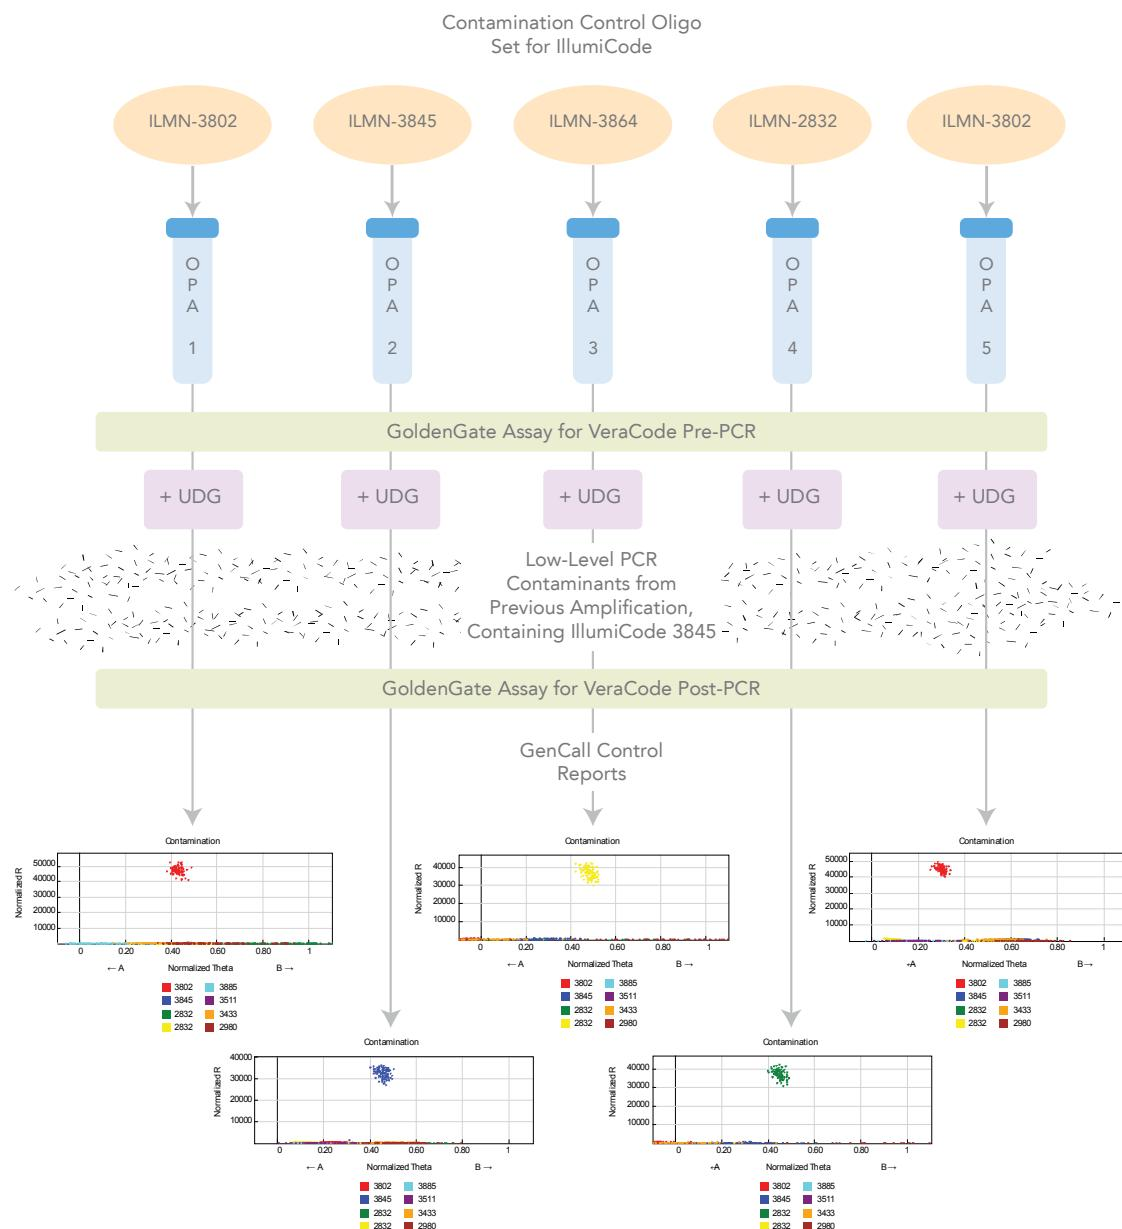

Figure 124 Contaminated Environment with UDG Treatment
- ▶ Figure 124 represents a contaminated environment *with* UDG treatment